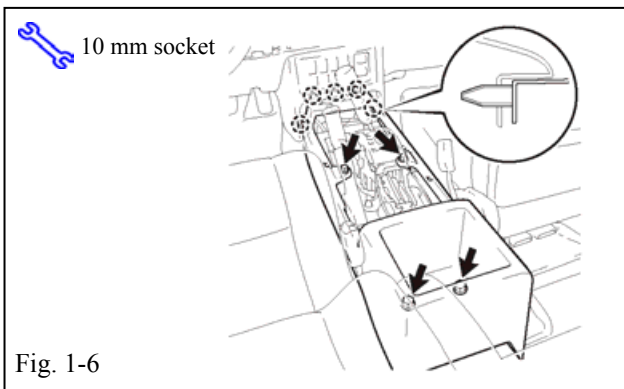

Fig. 1-6
(j) Remove the four (4) screws. (Fig. 1-6)